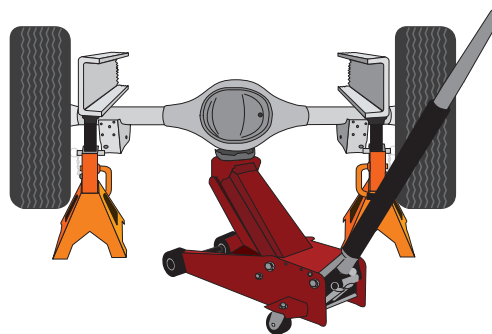

fig. 2
1. Jack up the rear of the vehicle using a jack or a hoist. Support the rear axle with safety stands and remove the rear wheels (Fig. 2).